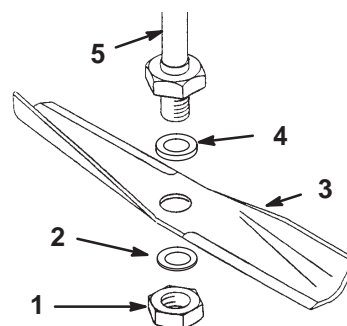

Figure 27
1. Install the washer, blade, flat washer, and the blade nut (Fig. 27).